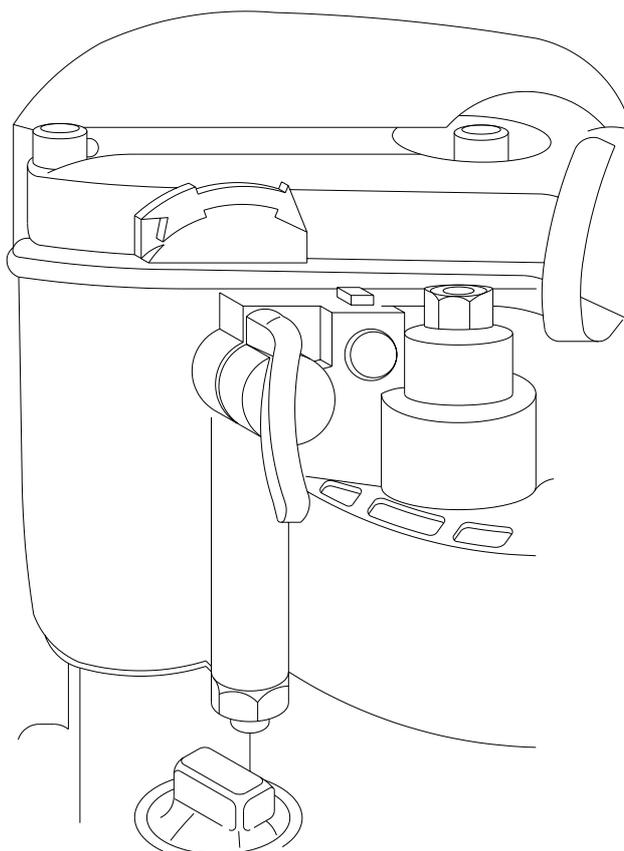

Fig.1
**ATTENTION!** Avoid damage to the system by turning decompression lever only in direction of arrow (see fig. 1).
- 2) Decompression lever in vertical position (as in fig. 1).